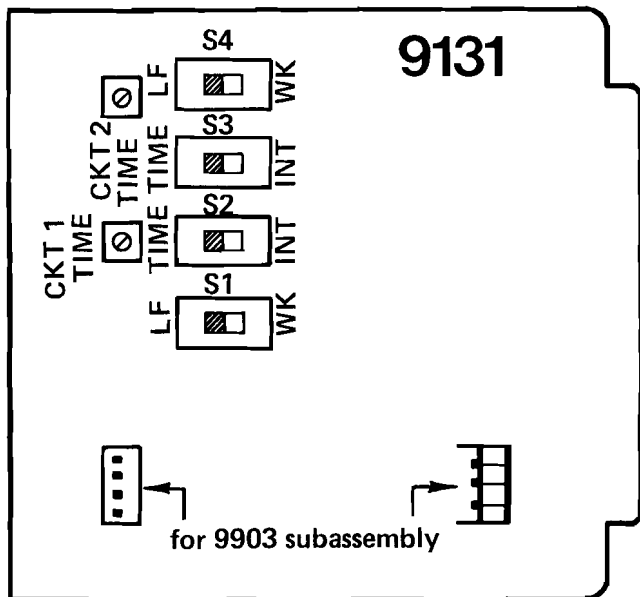

figure 2. Switch locations
3.06 The 9131 contains four option switches and two user-adjustable potentiometers. The locations of these controls on the module's printed circuit board are shown in figure 2, and switch functions are summarized in table 2. After these controls are set, no further optioning or alignment of the module is required.
**Note:** Because the two timing/interrupter circuits of the 9131 are identical, this checklist will apply equally to either circuit. The only difference will be option switch assignments and pin assignments. See table 1 for pin assignments. See figure 2, table 2, and accompanying text (paragraphs 3.06 through 3.09) for option switch assignments.